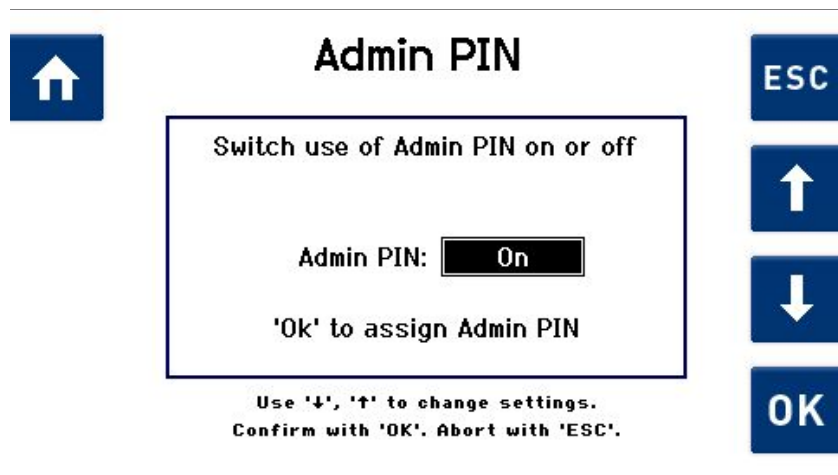

Fig. 7.1.2.1 Selection field for activating / deactivating the Admin PIN
The *Admin PIN* (Fig. 7.1.2.1) display is shown.
3. In the display (Fig. 7.1.2.1) select *On* by touching / and confirm by pressing .
The *Admin PIN* (Fig. 7.1.2.2) display is shown.